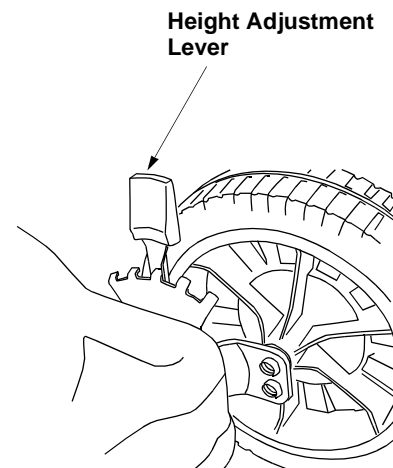

Figure 19
- Simply depress the lever towards wheel and move the wheel and lever assembly to the desired position. See Figure 19. All wheels must be placed in the same relative position for uniform cutting height.